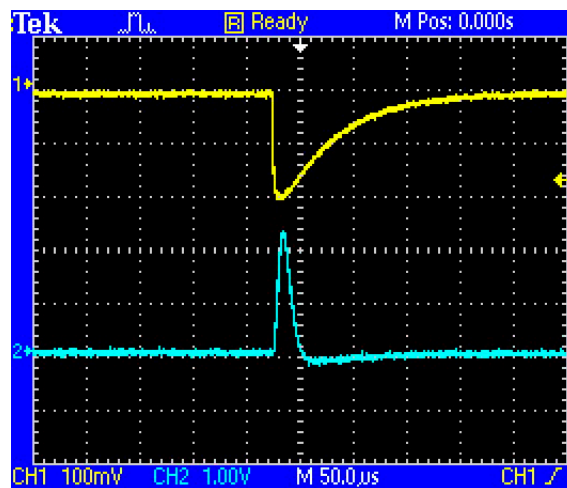

Fig. 9. Output signals
- 1 After power-up, use the polarity selector (5) to set the u-CSA output pulse polarity to negative; see Fig. 9.
- 2 Set the DC offset signal selector (9) to ON.
- 3 Using the DC offset precision potentiometer (8), set the DC offset voltage to +2.0 to +2.5 V.
- 4 Select external feedback (7) and empirically select the Cf-Rf feedback network so that the SHAPER AMPLIFIER does not saturate. Example: $C_f = 4.7$ nF, $R_f = 10$ k Ω .